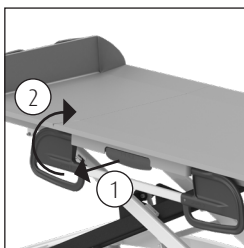
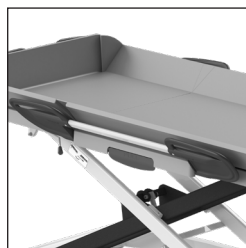

Figure 4 Side rail down.
Figure 5 Side rail wide.
- Turn the side rail upwards again to close the side rail (*See figure 4*). The side rail locks automatically.
- The side rail can be placed in 2 positions, wide and narrow. When you fold the side rail upwards, the side rail is first locked in the wide position (*See figure 5*). By pulling the handle of the lock (*See figure 4*) you can move the side rail further back to its narrow position.